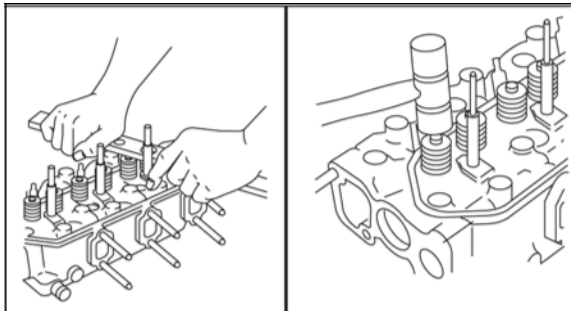

Figure 28
4. Install valve springs (Figure 28) with Valve Spring Compressor #19417.